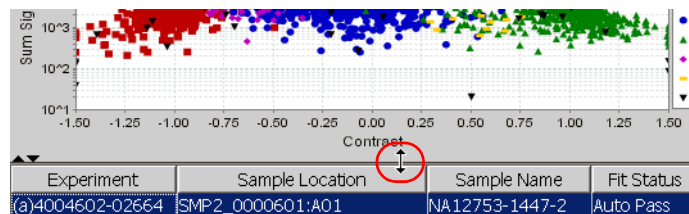

Figure 4.27 Resizing Windows
2. Click, hold and drag the window the desired size (Figure 4.27).